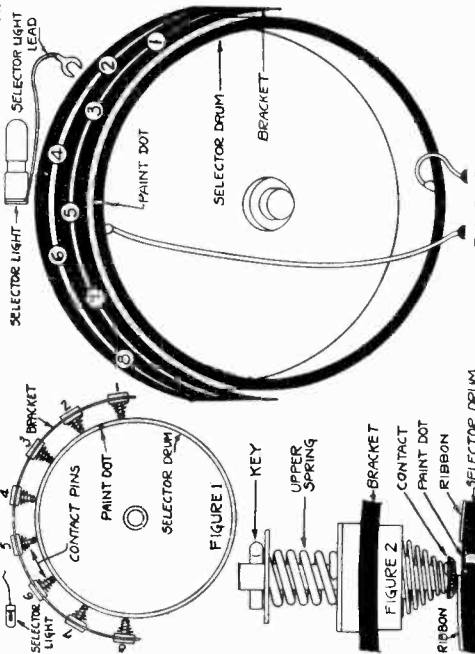

FIGURE 3
- Do not change the relative positions of the contact pins; keep them in the same order as shown on the diagram (Figure 3).
On the back of the receiver will be found the points at which the tuner will stop when the buttons are pressed. Referring to the diagrams, Fig. 1 shows the general layout and relation of the drum and contacts. Fig. 2 shows the contact pins in detail; note that while the position of the contact may be varied at will by sliding it along the drum, it is held securely by a strong spring which will not allow it to move when the selector drum turns. Fig. 3 shows the arrangement of the Contact Pins, each pin being numbered according to the system suggested for numbering the stations, thus pin No. 1 will be used for Station No. 1, pin No. 2 will be used for Station No. 2, and so on down the list.
On the back of the receiver will be found the *Selector Drum* and the ten *Contact Pins* which determine the points at which the tuner will stop when the buttons are pressed. Referring to the diagrams, Fig. 1 shows the general layout and relation of the drum and contacts. Fig. 2 shows one of the contact pins in detail; note that while the position of the contact may be varied at will by sliding it along the slot in the bracket, it is held securely by a strong spring which will not allow it to move when the selector drum turns under it. Fig. 3 shows the arrangement of the *Contact Pins*, each pin being numbered according to the system suggested for numbering the station; thus pin No. 1 will be used for Station No. 1, pin No. 2 will be used for Station No. 2, and so on down the list.